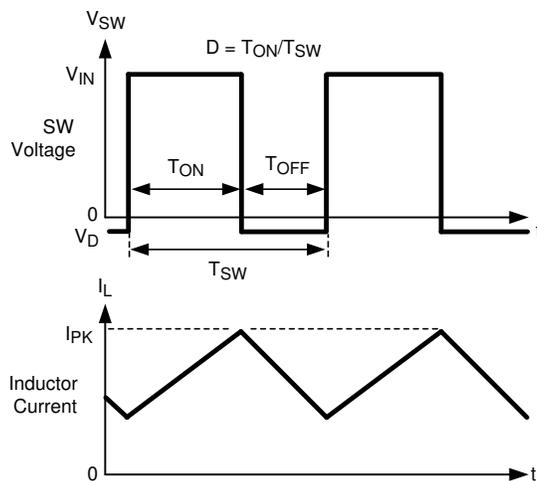

Figure 14. LMR12010 Waveforms Of SW Pin Voltage and Inductor Current
The following operating description of the LMR12010 refers to the functional block diagram (*Functional Block Diagram*) and to the waveforms in Figure 14. The LMR12010 supplies a regulated output voltage by switching the internal NMOS control switch at constant frequency and variable duty cycle. A switching cycle begins at the falling edge of the reset pulse generated by the internal oscillator. When this pulse goes low, the output control logic turns on the internal NMOS control switch. During this on-time, the SW pin voltage (V_{SW}) swings up to approximately V_{IN} , and the inductor current (I_L) increases with a linear slope. I_L is measured by the current-sense amplifier, which generates an output proportional to the switch current. The sense signal is summed with the regulator's corrective ramp and compared to the error amplifier's output, which is proportional to the difference between the feedback voltage and V_{REF} . When the PWM comparator output goes high, the output switch turns off until the next switching cycle begins. During the switch off-time, inductor current discharges through Schottky diode D1, which forces the SW pin to swing below ground by the forward voltage (V_D) of the catch diode. The regulator loop adjusts the duty cycle (D) to maintain a constant output voltage.
In the *Functional Block Diagram*, capacitor C_{BOOST} and diode D2 supply the gate-drive current for the NMOS switch. Capacitor C_{BOOST} is charged via diode D2 by V_{IN} . During a normal switching cycle, when the internal NMOS control switch is off (T_{OFF}) (refer to Figure 14), V_{BOOST} equals V_{IN} minus the forward voltage of D2 (V_{FD2}), during which the current in the inductor (L) forward biases the Schottky diode D1 (V_{FD1}). Therefore the voltage stored across C_{BOOST} is